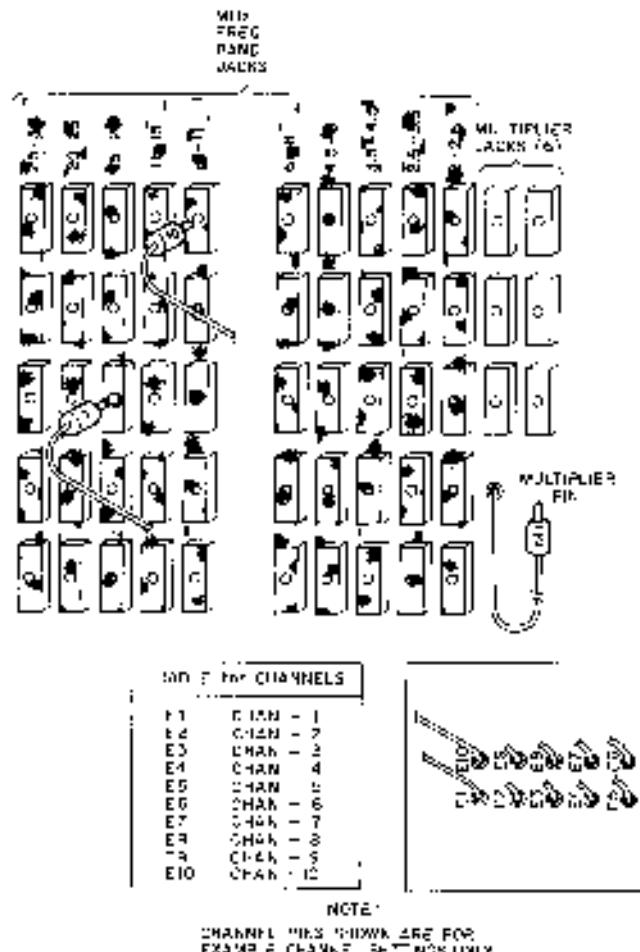

Figure 3.6 Channel Vs Frequency Band Connections
- 1.* Program each channel that is to be used to the frequency band that contains the channels operating frequency. This is accomplished by connecting the channel pins (E1 through E10) into the frequency band jacks, refer to figure 3.6.